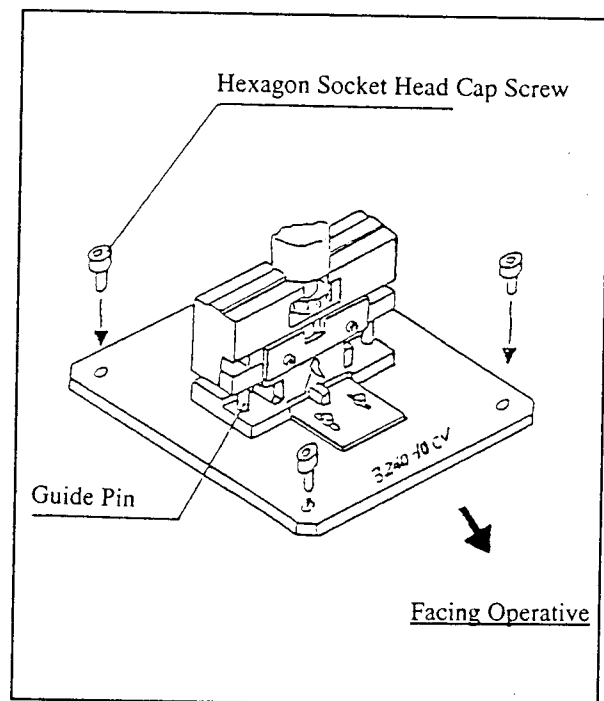

Fig.3
- (1) Remove Hexagon Socket Head Cap Screw from the base of Hand Press.
- (2) Align the four (4) holes on Guide Plate with the four (4) tapped holes on the base of Hand Press then temporarily tighten the screws.
- (3) Press the handle on Hand Press down as shown in Fig.3 to fit Guide Pins on Pressing Block into the guide holes on Guide Plate.
- (4) With Guide Pins fit in the guide holes, securely tighten the temporarily tightened hexagon socket head cap screws.